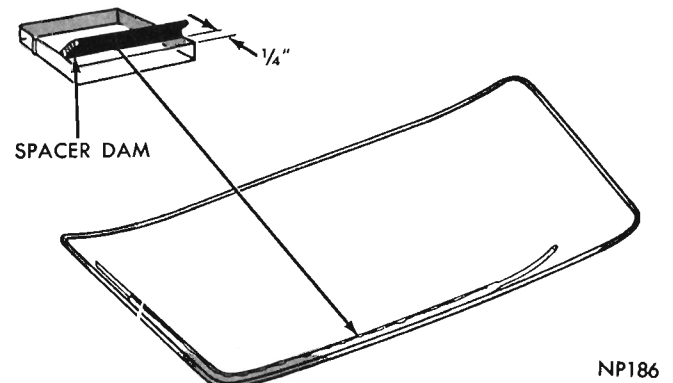
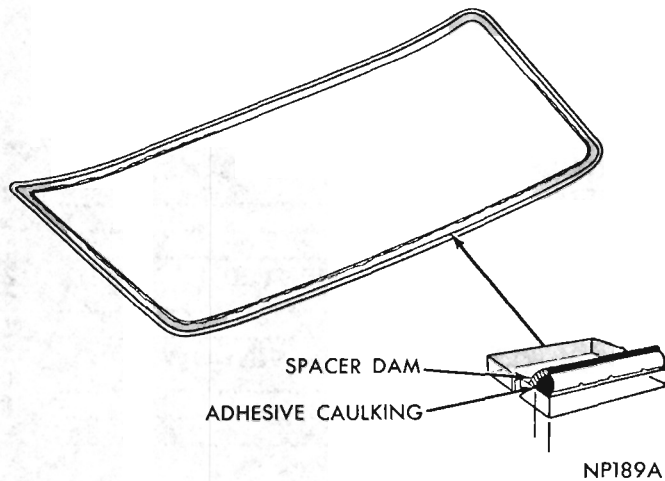

Fig. 2 Spacer Dam Installation
Fig. 3 Adhesive Application to Glass
(2) Inspect rubber spacers in window reveals when replacement of spacers is required, make certain they are positioned in the exact areas removed from.
(3) Install spacer dam 1/4 inch from edge and positioned so it leans toward edge on glass inner surface (Fig. 2).
(4) Attach suction cups to glass outer surface and position glass in opening.
(5) Inspect relationship of glass to fence completely around opening. The spacer dam should fold under and create a cushion for the glass to rest on. The glass to body fence overlap (0.30 inch minimum) should be equal across the top and sides. Use waterproof shims under spacers to obtain required overlap.
(6) Apply a piece of masking tape over each side of glass and roof extensions. Slit tape vertically at edge of glass so when glass is installed, tape on glass can be aligned with tape on body.
(7) Remove glass from opening and place on a protected surface, with inside surface up.
(10) Insert adhesive tube into a standard household caulking gun, install nozzle on end of tube, and puncture adhesive seal at nozzle.
(11) Apply a smooth continuous 3/8 inch bead of adhesive on glass between glass edge and spacer dam (Fig. 3).
(12) When positioning glass in opening, alignment must be exact to prevent necessity of mov-